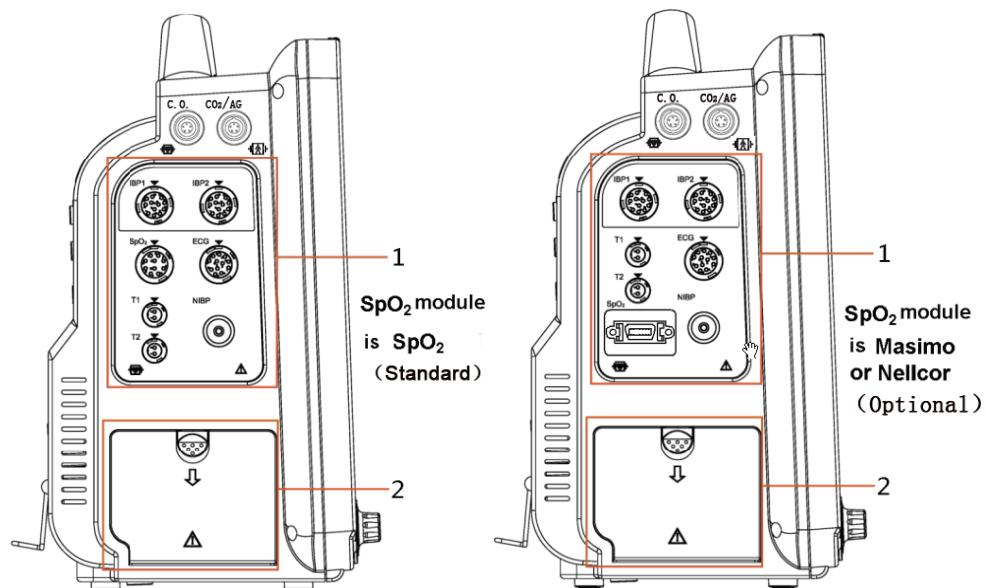

Figure 2.3 Left Side View of 12 Inches Monitor
The cable and probe insertion points are placed on the left side of the monitor, as shown in Figure 2.3 (12 inches monitor) /2.4 (15 inches monitor).
- All the side view structure below, please take the left picture in Figure 2.3/2.4 as example.